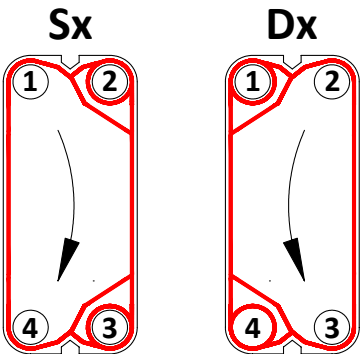

Fig. 6
- On right-hand plates fluid flows from connection 2 to 3 or vice versa from connection 3 to 2 (Fig. 6).
- On left-hand plates fluid flows from connection 1 to 4 or vice versa from connection 4 to 1 (Fig. 6).